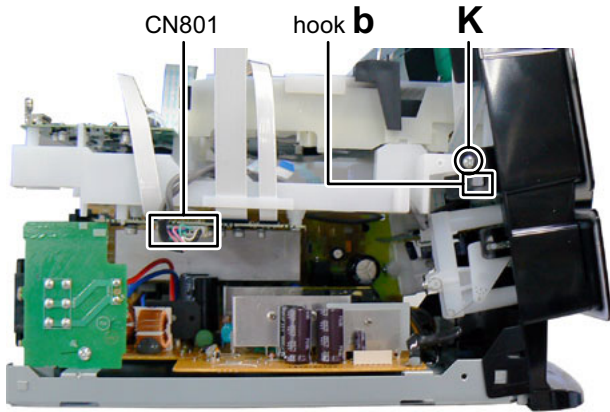

Fig.8
- (2) Disconnect the connector wire from USB board connected to connector **CN801** of the Connection board. (See Fig.8)
- (3) Remove the two screws **K** attaching the both side of the DVD mechanism. (See Fig.8)
- (4) Disengage two hooks **b** engaged both side of the DVD mechanism, (See Fig.8)
When remove the lead screw, do not loss the middle gear. (See Fig.8 and 9)
- (4) Remove the bar spring pressing the shaft. (See Fig.8)